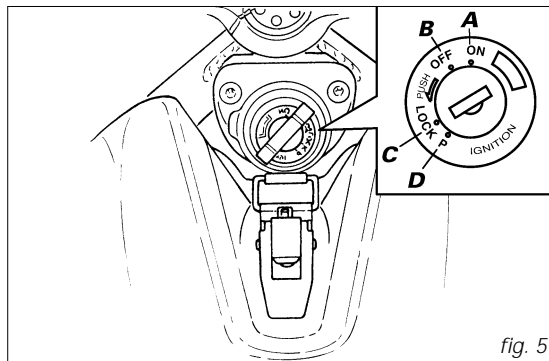

fig. 5
*Ignition switch and steering lock (fig. 5)*